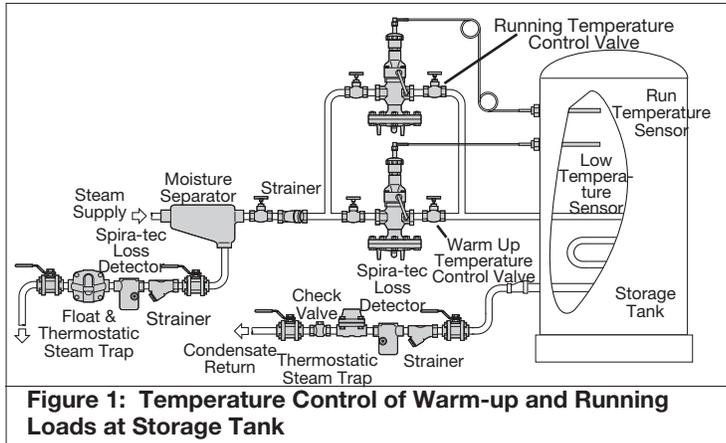

Figure 1: Temperature Control of Warm-up and Running Loads at Storage Tank
1. Typical hookup sketches as shown in Figs. 1 and 2 will aid in planning a correct installation.
4. Regulating valve should always be installed in a horizontal position. (See Figs. 1 and 2.)
1. A bypass connection, as shown in Figs. 1 and 2, is recommended so that the valve can be serviced without shutting down the equipment.
To insure proper operation of the valve and avoid premature wear, it is recommended that a steam trap be installed on the steam supply line. (See Figs. 1 and 2.)
1. It is strongly recommended that strainers be installed before the temperature regulating valve and steam traps. (See Figs. 1 and 2.)